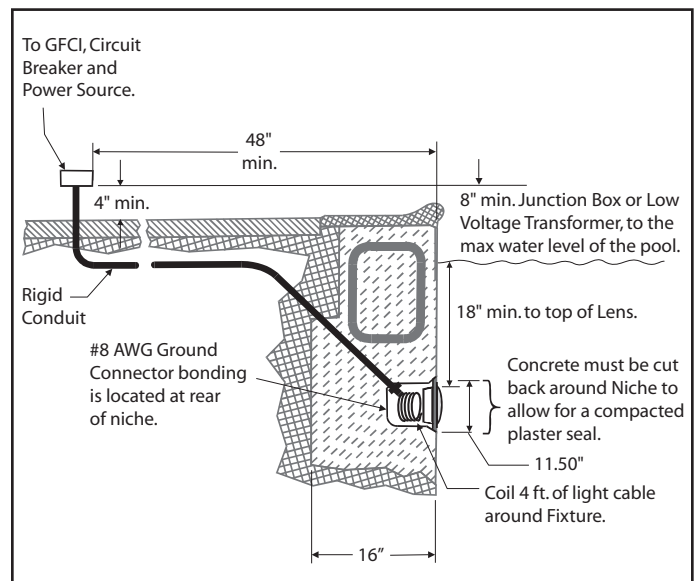

Figure 1. Jandy Pro Series LED Light Installation
NOTE The electrician must complete preparatory steps before light fixture is installed. See Figure 1.
2. The junction box (or, for 12 volt models, the low voltage transformer) must be located at least eight (8) inches above water level, at least four (4) inches above ground level, and at least four (4) feet from the edge of the pool. See Figure 1.
(5) feet of the pool must be properly electrically bonded to a reliable point of grounding.
4. The wet niche must be properly installed so that the top edge of the underwater light's lens is at least 18 inches below the surface of the water in the pool. See Figure 1.
5. The wet niche must be properly electrically bonded and grounded via the No. 8 AWG ground connector located at the rear of the niche. See Figure 1.
1. Feed cord through conduit to junction box, leaving at least four (4) feet of cord at the light fixture to coil into the base of the light niche, see Figure 1. The four (4) feet of cord allows the light to be serviced after the pool is filled with water.
2. Cut the cord at the junction box, leaving at least six (6) inches of cord to make connections.
3. Strip six (6) inches of the outer cord jacket to expose the three insulated wires. *Be careful not to damage the insulation on the three (3) inner wires.*
4. Install strain relief over cord jacket and connect all three (3) wires to the corresponding circuit wires in the junction box. Install the junction box cover.
2. The junction box (or, for 12 volt models, the low voltage transformer) must be located at least eight (8) inches above water level, at least four (4) inches above ground level or pool deck level, and at least 48 inches from the edge of the pool or spa. See Figure 1.
3. The light fixture and all metal items within five (5) feet of the pool must be properly electrically bonded to a reliable point of grounding.
4. The wet niche must be properly installed so that the top edge of the underwater light’s lens is at least 18 inches below the surface of the water in the pool. See Figure 1.
5. Leave at least four (4) feet of cord to coil around the light fixture or coiled into the base of the light niche, see Figure 1. This allows the light to be serviced after the pool is filled with water.
6. Cut the cord at the Junction Box, leaving at least six (6) inches of cord to make connections.
7. Strip six (6) inches of the outer cord jacket from the cord to expose the three insulated wires. *Be careful not to damage the insulation on the three (3) inner wires.*